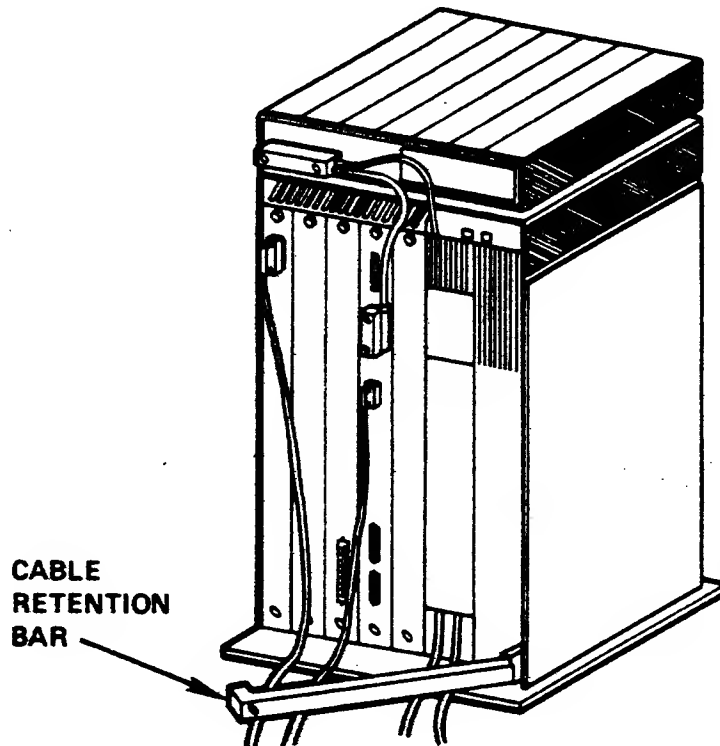

Figure 2-10. Processor Cable Retention Bar
1. Unscrew and open the cable retention bar (Figure 2-10).
4. Unscrew and open the cable retention bar (if not already done, see Figure 2-10).